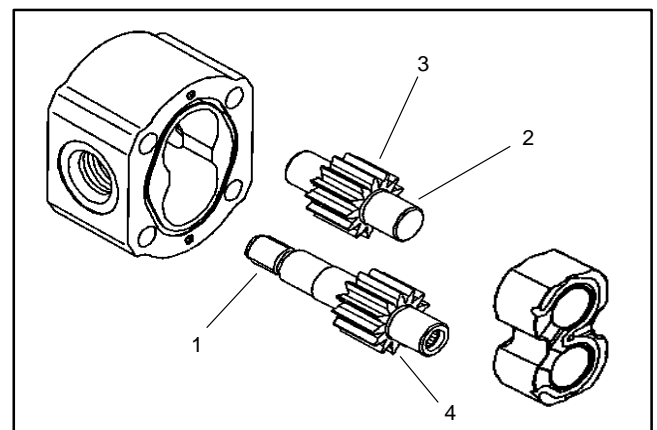

Figure 62
3. Inspect drive gears and idler gears for the following (Fig. 62):